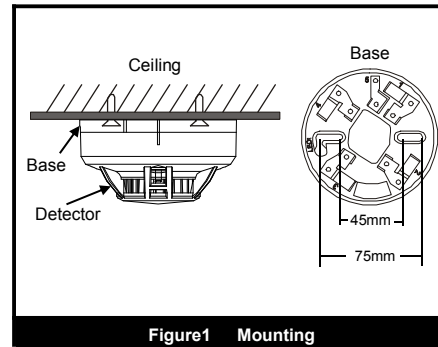

Figure1 Mounting
2. Attach mounting base to ceiling or wall. The base of the detector can be mounted directly onto an electrical junction box such as an octagonal (75mm, 90mm or 100mm), a round (75mm), or a square (100mm) box without using any type of mechanical adapter. See Figure 1.
3. Position all wires flat against terminals, and fasten the wires on the terminals, See Figure 1.